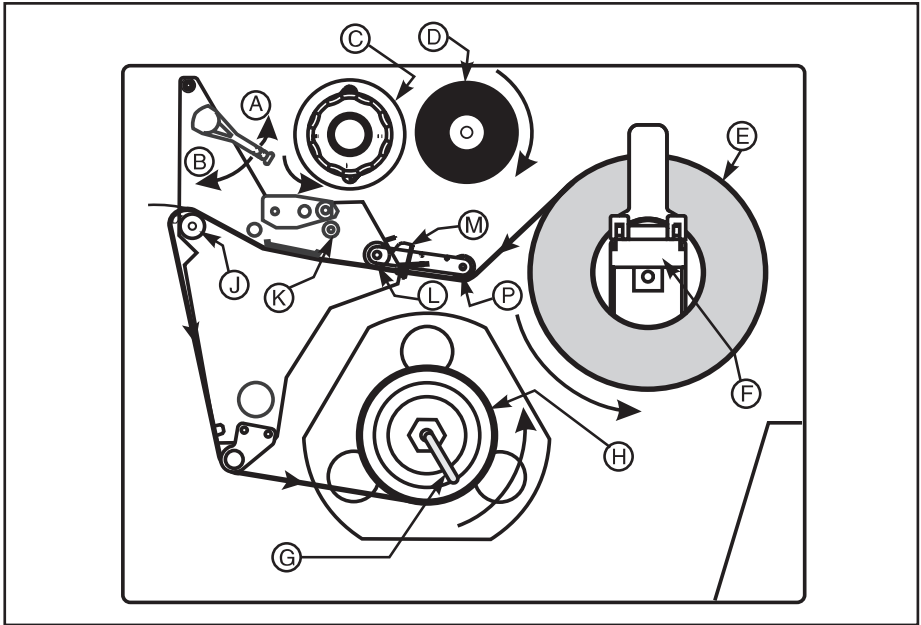

Figure 5
1. Place the Media Roll (Figure 5-E) on the Media Hanger (Figure 5-F) or optional Supply Spindle.
2. Open the printhead by moving the lever located on the Upper Printhead Assembly to the open (Figure 5-A) position.
3. Loosen the Media Guide (Figure 5-M) Thumbscrew and position the Guide as far out from the printer frame as possible.
4. Thread the media under the Dancer Arm Assembly (Figure 5-P), under the Lower Roller (Figure 5-L), between the upper media guide plate and main media guide, under the printhead, and over the Platen (Figure 5-J).
5. Adjust the Media Guide (Figure 5-M) position until it just touches the outer edge of the media without causing it to buckle, make sure it is parallel to the edge of the media, then tighten the thumbscrew.
6. Close the printhead by moving the lever located on the Upper Printhead Assembly to the closed (Figure 5-B) position.
3. Remove the Hook (Figure 5-G) from the Take-Up Spindle Shaft (Figure 5-H). If you are using a core, remove all tape from the core and slide it onto the Rewind Spindle until it is flush against the guide plate.
6. Remove the Hook (Figure 5-G) from the Take-Up Spindle Shaft (Figure 5-H). If you are using a core, remove all tape from the core and slide it onto the Rewind Spindle until it is flush against the guide plate.
7. Route the media as shown in Figures 5 and 6 and wind it 1-2 times around either (1) the Media Take-Up Spindle and reinstall the Hook, or (2) a 3” (76.2 mm) core. (With some types of media, especially tag stock, you may need to tape the end of the media to the core if it will not otherwise tighten onto the core. **DO NOT** tape the label stock unless absolutely necessary.)
Adjust the Media Guide (Figure 5-M) Thumbscrew to keep the media from drifting. Make sure it is parallel to the edge of the media.
When loading ribbon, make sure that the ribbon core is pushed up against the stop on the Ribbon Supply Spindle (Figure 5-D). *Do not use ribbon narrower than the media.*